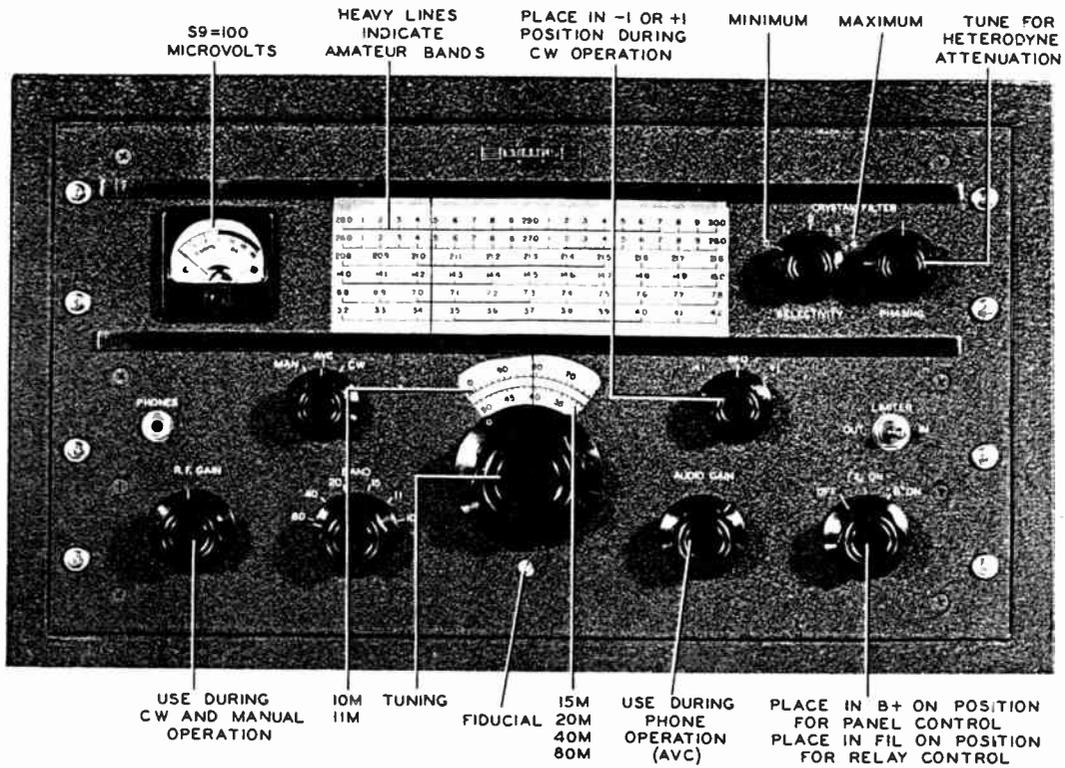

FIGURE 4-1 OPERATING CONTROLS
4-3. OFF - FIL ON - B+ ON. - See figure 4-1. This knob controls the plate and filament power in the receiver. In the OFF position this control turns the receiver completely OFF. In normal operation the control is turned to the B+ ON position. During stand-by, the control can be turned to the FIL ON position thus disabling the receiver but allowing the tube filaments to remain heated.
- 4-14. OPERATION. - While the 75A receiver contains many new and improved principles and circuits, a simplicity of operation found in few other receivers has been obtained. Familiarity with the FUNCTIONS OF CONTROLS, paragraphs 4-2 through 4-11 and reference to figure 4-1 will enable any amateur to operate the receiver. For those not familiar with the amateur bands, the following paragraphs are written.